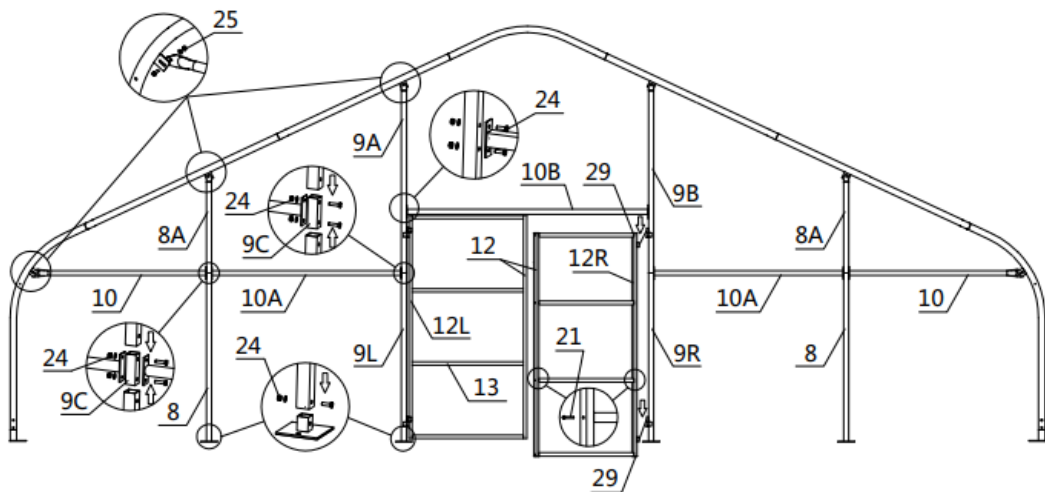

Figure 7
Step 4 : Installation of front and rear trusses (refer to figure 7)